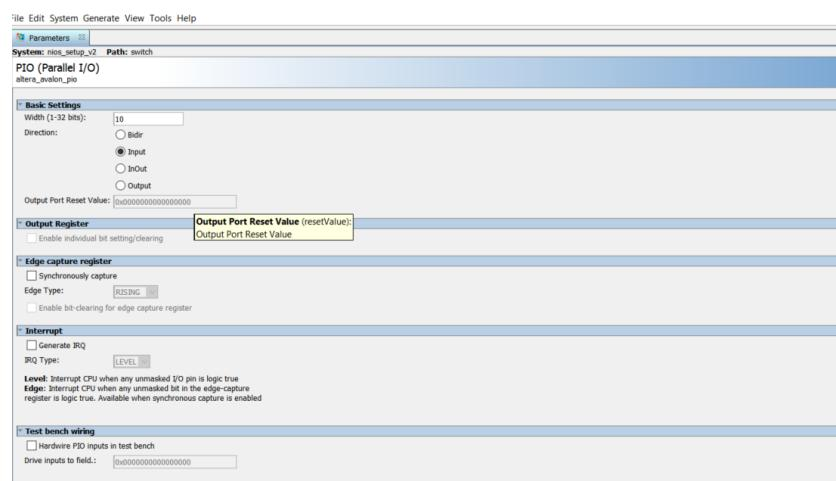

Figure 17: Parallel IO Configuration for Switch Input Panel
- When you have setup your switch input component interface as in Figure 17, click **Finish**.